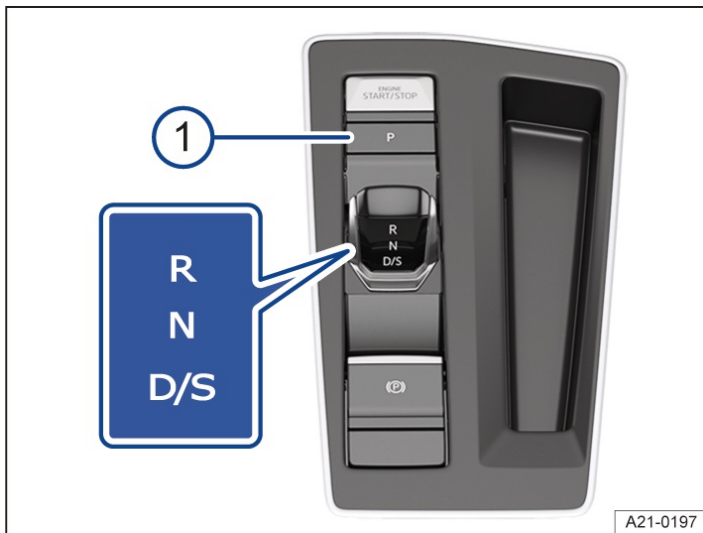

Fig. 1 Selector lever of the automatic gearbox.
To engage the parking lock, press the **P** button → Fig. 1 ①.